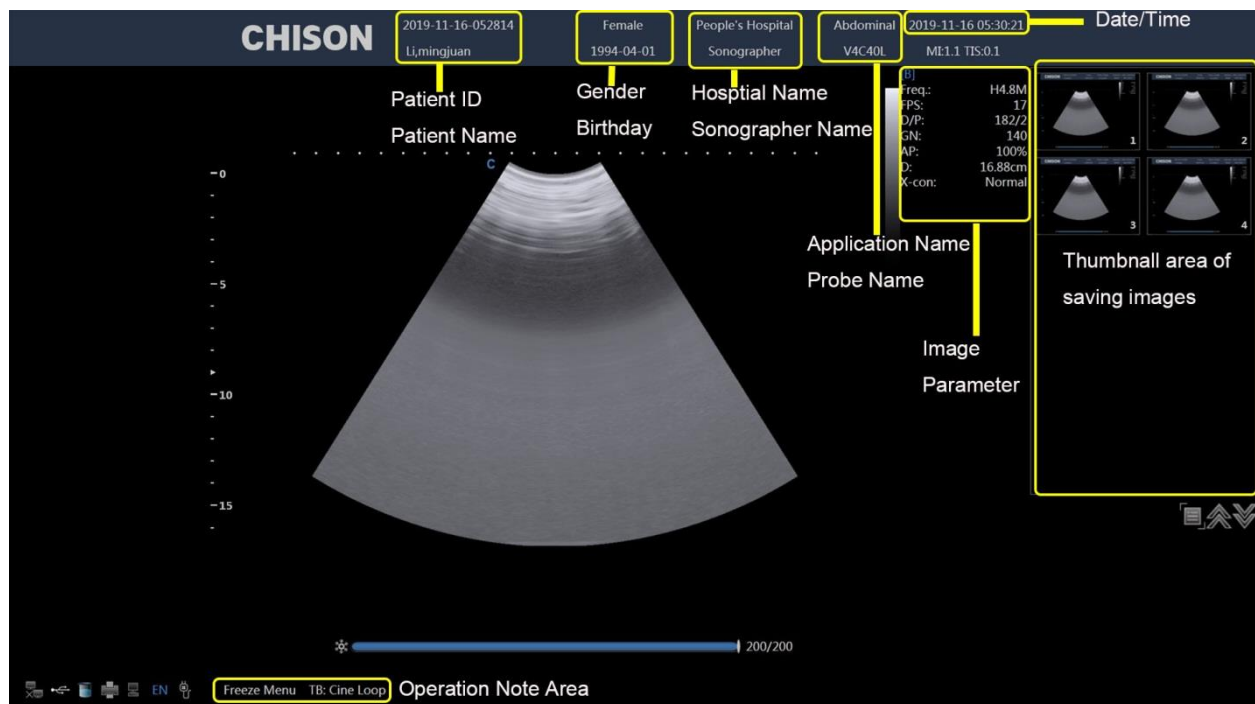

Fig.4-3
- operation note area: The first line shows the status of the current system. The second line indicates the current function of the trackball. In the picture Fig. 4-3, the first line display “freeze menu”. It means the system is in frozen status. The second line display “recall image”. It means moving the trackball can recall the images in current status.